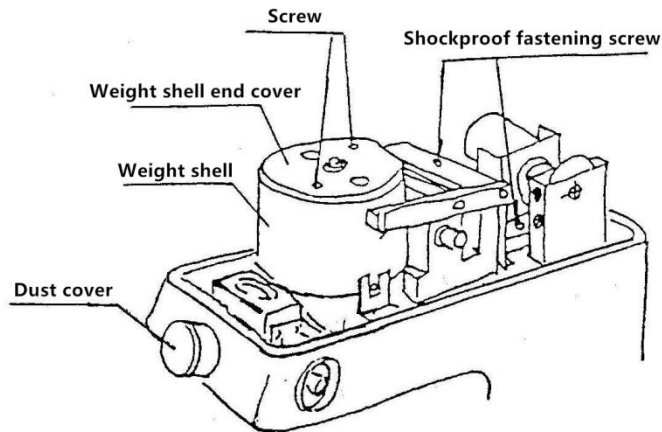

Fig2
- 3) Take out the horizontal adjusting screw (19) from the accessory box and screw it on the bottom of the main body;
- 4) Pull out the eyepiece (6) and screw down the eyepiece tube. Remove the upper cover (7) in the direction of the arrow in the figure below. Remove the shockproof screw (Figure 2).;